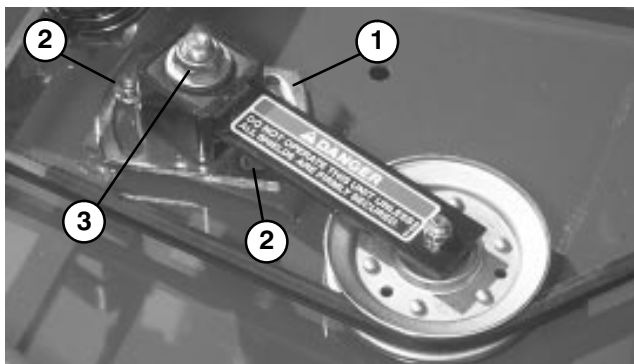

Figure 34
3. Loosen two nuts securing idler plate in place. Using a socket and torque wrench, tighten the idler adjusting nut to 25–30 ft–lb. (Fig. 34).